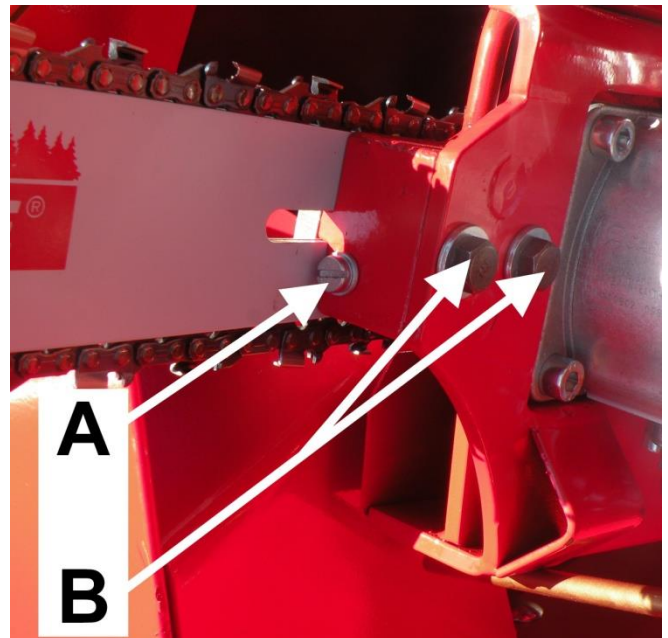

Figure 27.
2. Grease nipple of the output conveyor reversal link (1 pc) in Figure 27.